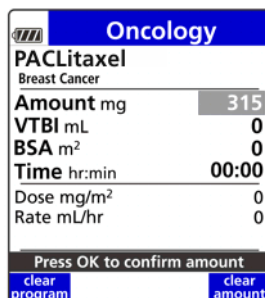

Figure 93. Enter Drug Amount. See important note on page 81.
- Enter drug amount. Press **OK**. See Figure 93.